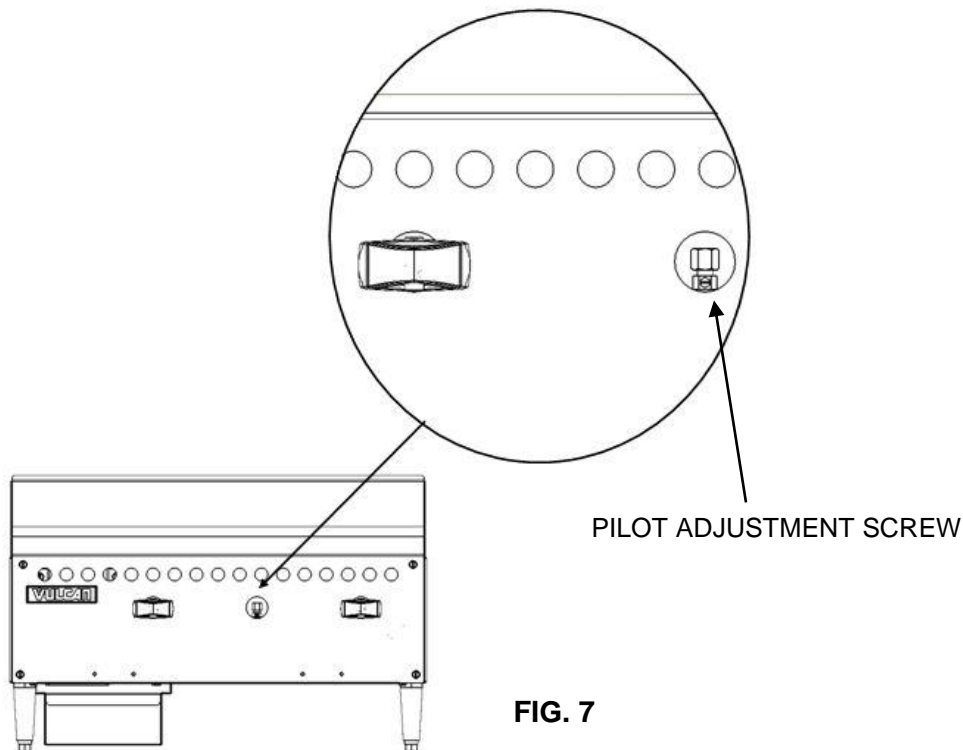

FIG. 7
3. While viewing through the pilot sight hole, you will have to reach under the front of the unit and through the pilot cutout to ignite the pilots with an outside ignition source(such as a lit taper, etc.). It may be necessary to adjust the pilot valve to increase gas to the pilot. See Fig. 7 on page 11.
Using a flathead screwdriver, turn the slotted hex-head pilot adjustment screw clockwise to decrease the flame, and counterclockwise to increase the flame. See Fig. 7.